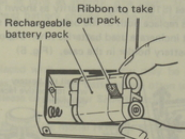

Fig. 2
- When installing the Ni-Cd battery pack EA-18B, refer to Fig. 2.